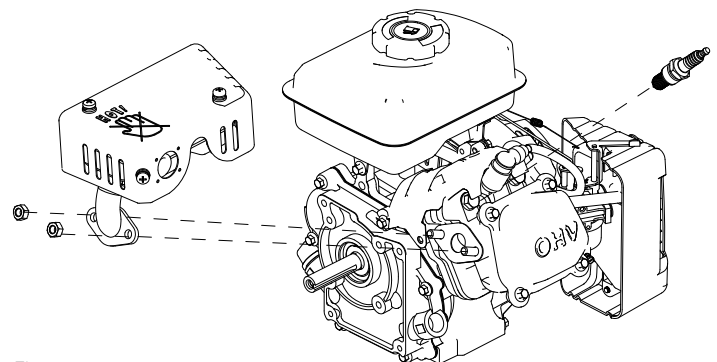

Figure 11
The recommended spark plug is a LG E5TC. You may also use NGK BPR8HS, Champion L92YC or RL92YC. The spark plug is located directly under the muffler. **SEE FIGURE 11.**
NOTE: For ease of access, remove the muffler. SEE FIGURE 11.
4. After analysis, seat spark plug and tighten with spark plug wrench to compress the sealing washer. **SEE FIGURE 11.**